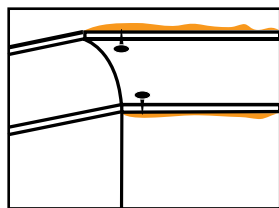

FIGURE 64
- Press the cornice into place and if necessary hold with temporary nails in the wall and ceiling along the edges of the cornice [Figure 64]